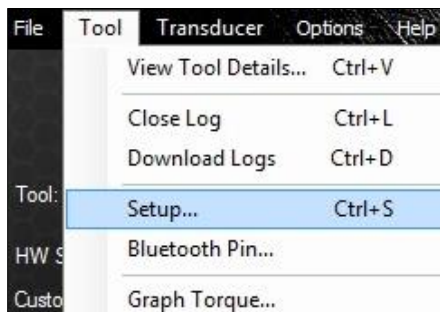

Figure 6.2-1: The Setup Button
1. From the "Tool" drop down menu, select "**Setup**" (Figure 6.2-1).